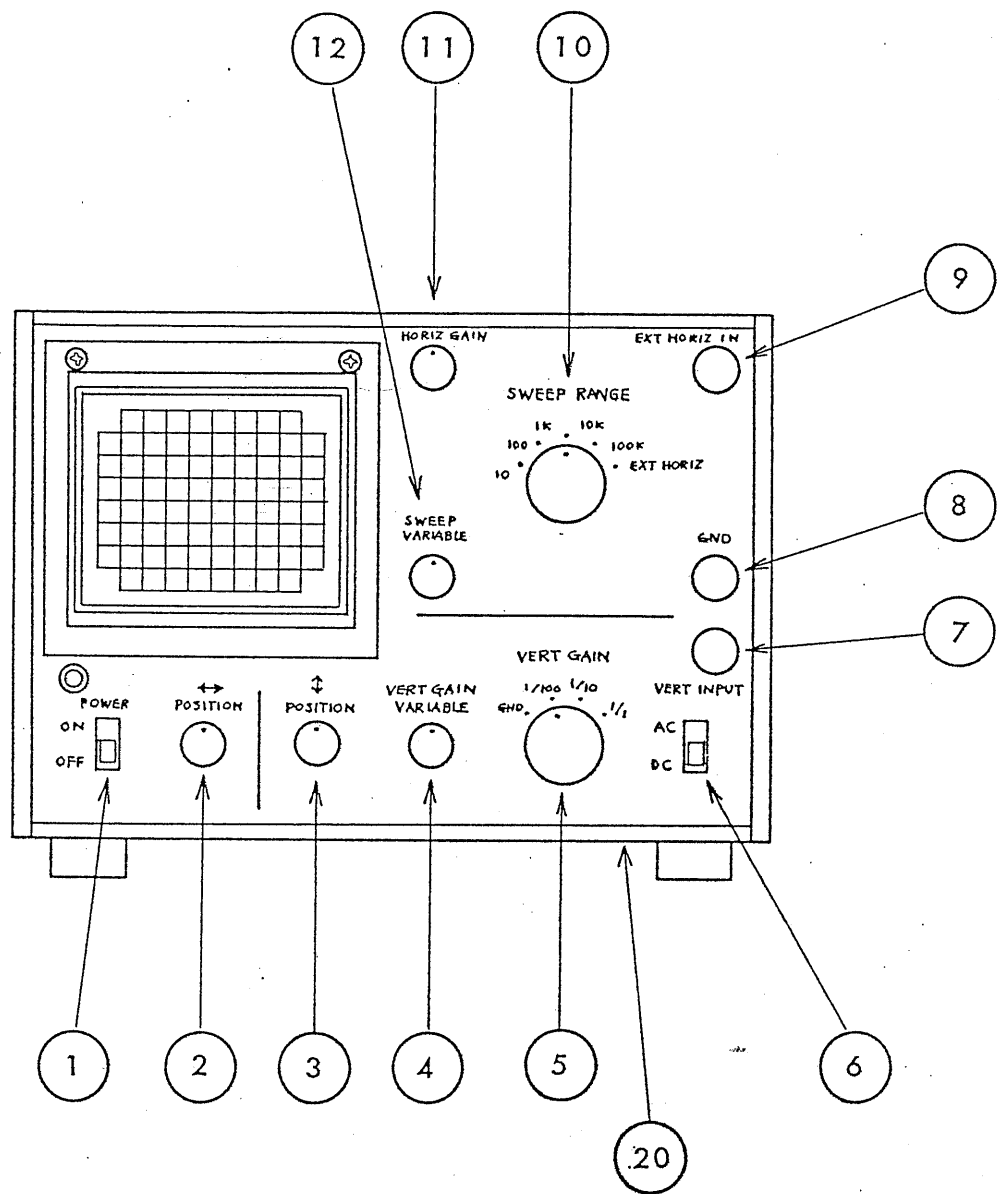

Fig.1
3. EXPLANATION OF PANEL (Fig. 1 and 2)
Feed the output of an oscillator to the vertical input terminal as illustrated in Fig.1 or 3. When the output and frequency of the oscillator are properly adjusted, the output waveform will appear on the CRT screen. As the SWEEP RANGE knob is now set to 10 - 100 Hz, a range of frequencies to be synchronized covers from 10 to 100 Hz.